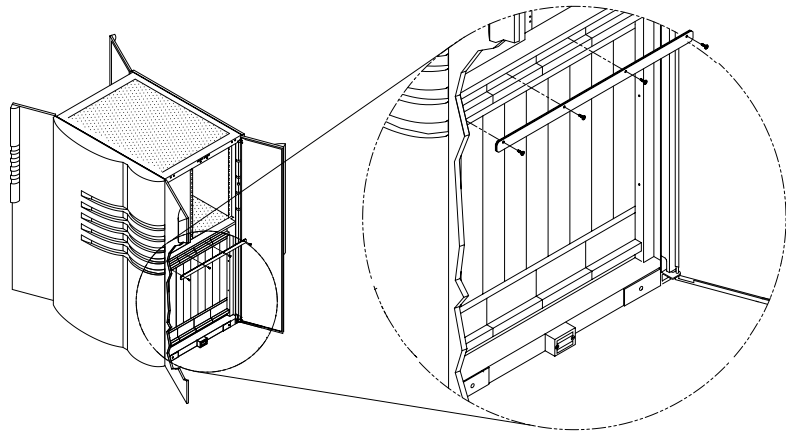

FIGURE 5-1 Installing the Upper Fan Tray Retaining Brackets
2. Attach the upper fan tray retaining brackets to both the front and rear upper fan trays (FIGURE 5-1).